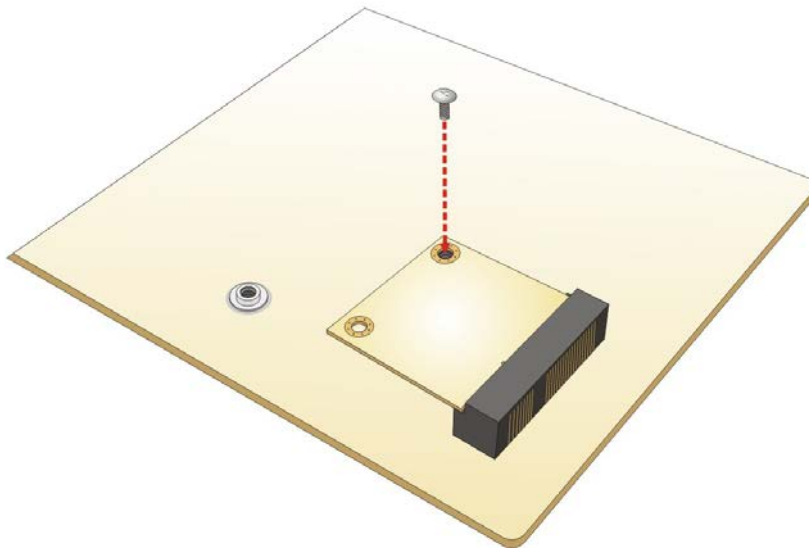

Figure 4-13: Securing the Half-size PCIe Mini Card
Step 6: Secure the half-size PCIe Mini card. Secure the half-size PCIe Mini card with the retention screw previously removed (**Figure 4-13**).